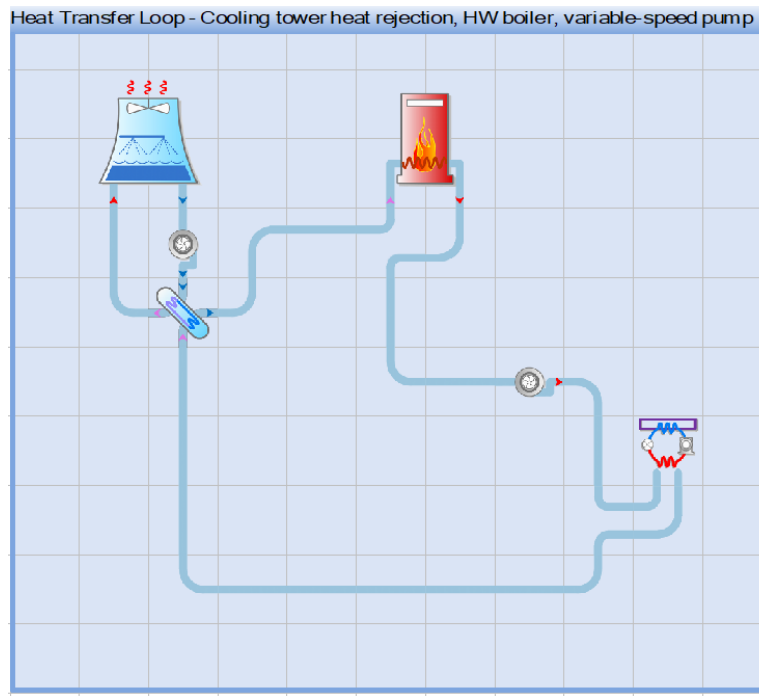

Figure 14: Heat Transfer Loop Diagram
1. Click "Heat transfer loops" of "Waterside" in "HVAC Network" of "HVAC Components" to open the heat transfer loop diagram in the Model Space as shown in Figure 14.